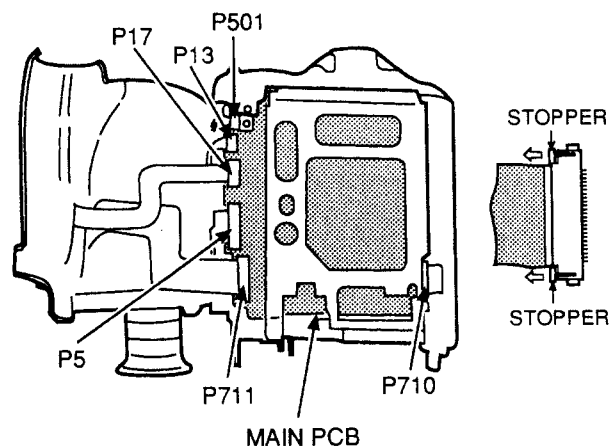

Fig.1-7
2. Disconnect the P501 connector as shown in Fig.1-7
1. Unlock the stopper of the P710 connector as shown in Fig.1-7 and disconnect the FPC cable.
2. Remove the (A) and (B) screws which retain the OPERATION A BLOCK and remove it.
2. Unlock the stopper of the P5 connector on the MAIN PCB located on the bottom and disconnect the FPC cable as shown in Fig.1-7.
3. Remove the (A) screw on the rear of the chassis.